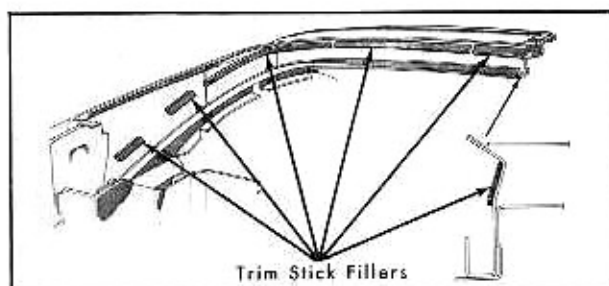

Fig. 3-107 Location of Trim Stick Fillers
3. Inspect rubber trim stick fillers which are cemented to the body in the locations shown in Fig. 3-107. Re-cement if necessary and check to
(75) Convertible Top Trim Installation